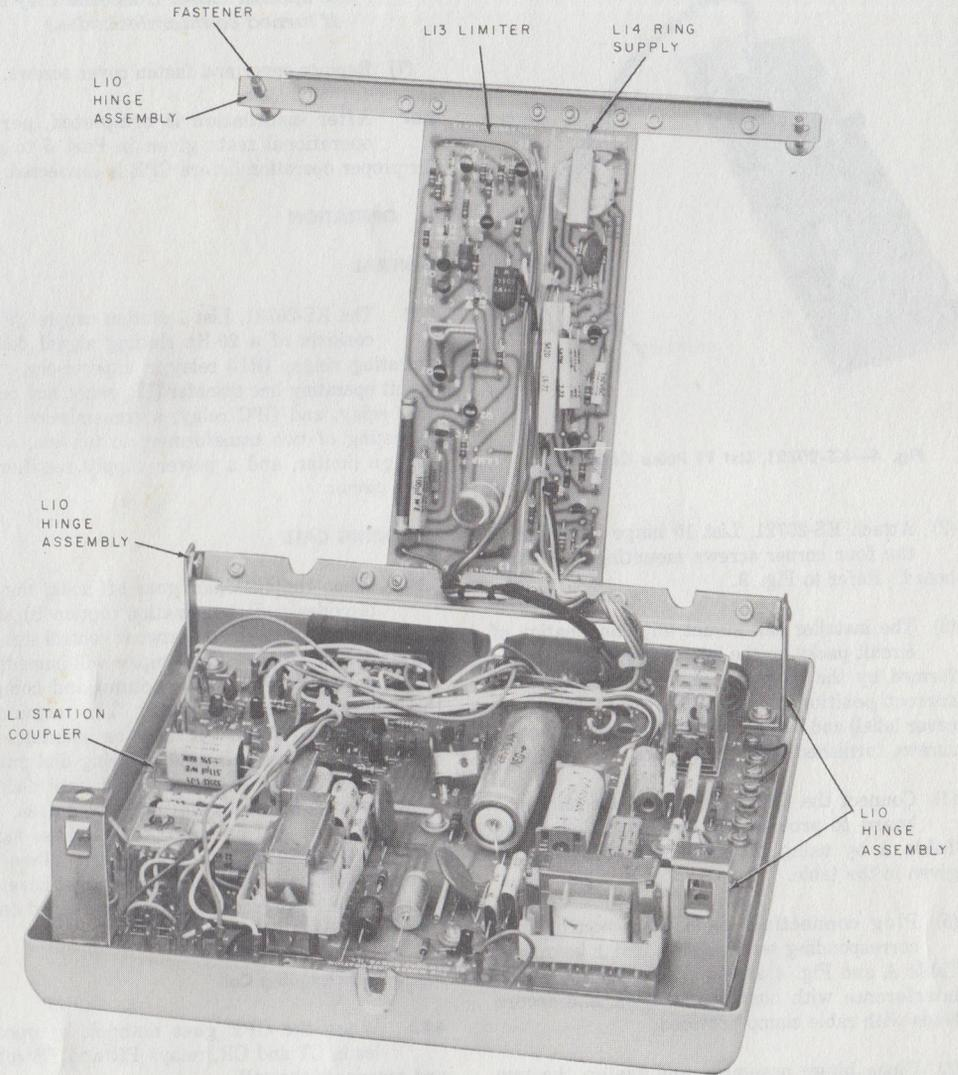
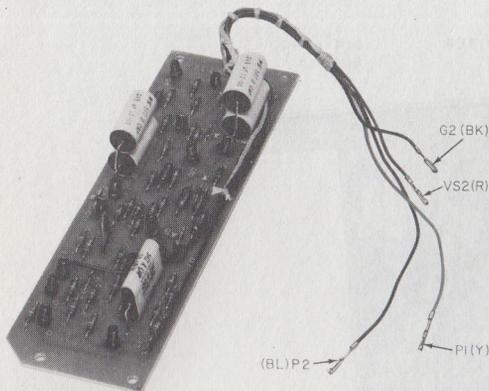

Fig. 3—KS-20721 Station Coupler Showing Optional Circuit Packs
Fig. 4—KS-20721, List 11 Pulse Corrector
- Assembly, Hinge, KS-20721, L10 (Fig. 3)
- Corrector, Pulse, KS-20721, L11 (Fig. 4)
**2.03** The KS-20721, List 1 station coupler (Fig. 2) is the basic unit, designed to be field equipped with a KS-20721, List 10 hinge assembly for mounting any combination of the optional circuit packs (Fig. 3). The circuit packs are equipped with lead connectors for easy installation.
**2.04** The KS-20721, List 11 pulse corrector is not required for initial installations. It shall be used only after it has been determined that the dial pulses received from the CPE meet all requirements specified in the Technical Reference and pulsing problems still exist. It should not be used to correct poor customer pulses. When adding the List 11 pulse corrector (Fig. 4) to the List 1 coupler, remove wiring option Q and provide option V as shown in Table A.
- (2) Attach KS-20721, List 10 hinge assembly to the four corner screws mounting the List 1 board. Refer to Fig. 3.
- (3) The installer can mount any combination of circuit packs on the internal mounting frame formed by the hinge assembly. Place board in correct position on frame (refer to Fig. 3 or cover label) and secure with four corner mounting screws furnished with circuit pack.
- (4) Connect the flexible jumper leads on List 1 board to provide the options called for in Table A by using the connecting information given in the table.
- (5) Plug connecting leads from boards into corresponding terminals on List 1 board per Table A and Fig. 4 and 5. Dress leads to avoid interference with boards and cover and secure leads with cable clamp provided.
- (6) Close hinge assembly and fasten the two top corner fasteners.
- (7) Replace cover and fasten cover screws.